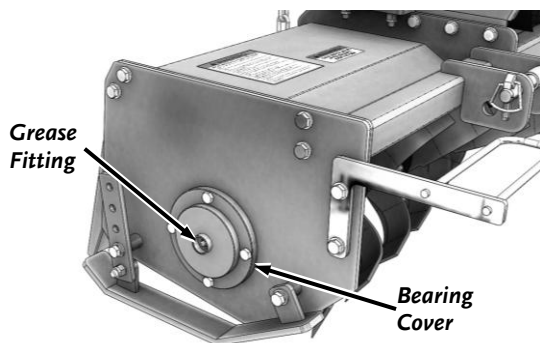

Figure 23
1. Wipe all dirt, etc., from the Grease Fitting on the Bearing Cover with a clean cloth (**Figure 23**).